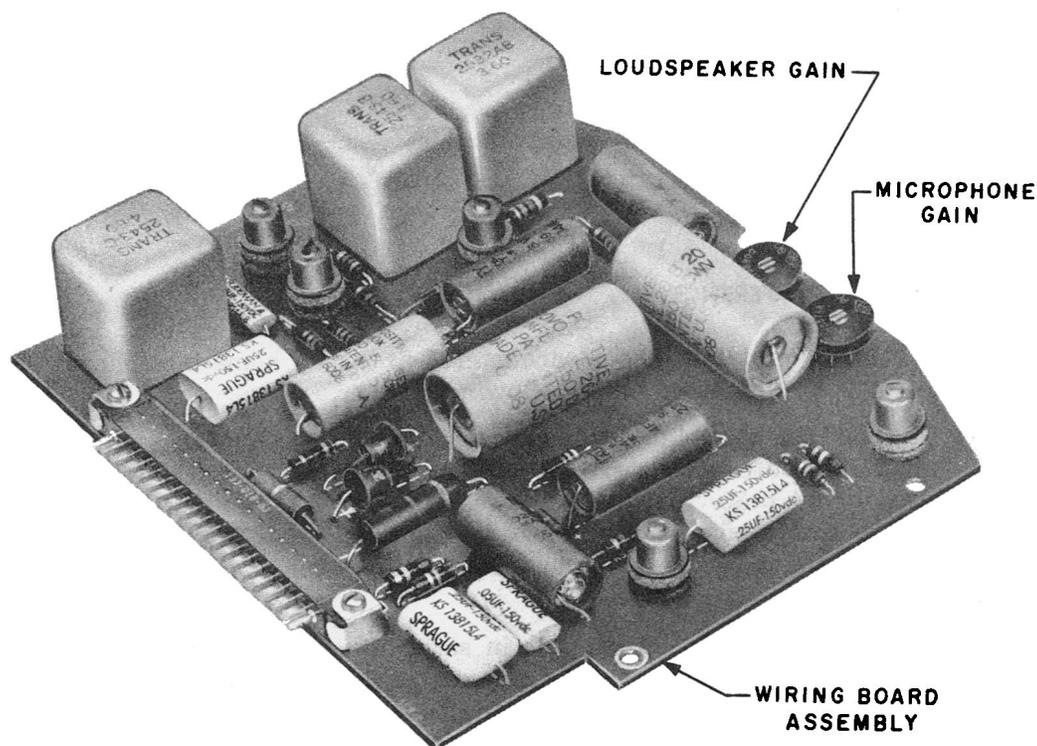

Fig. 8 – Amplifier Gain Controls
4.02 Turn microphone and loudspeaker amplifier gain controls to their maximum counter-clockwise (minimum gain) position (see Fig. 8).